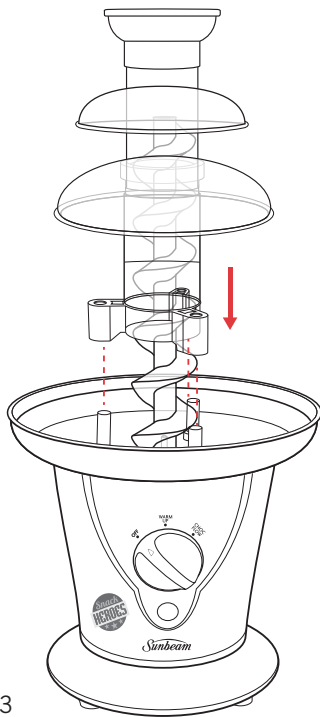

Figure 3
5. Place the chocolate tower over the plastic screw and into the middle of the base of the chocolate fountain – ensuring that it aligns with the 3 points on the base and is fitted securely. See figure 3.